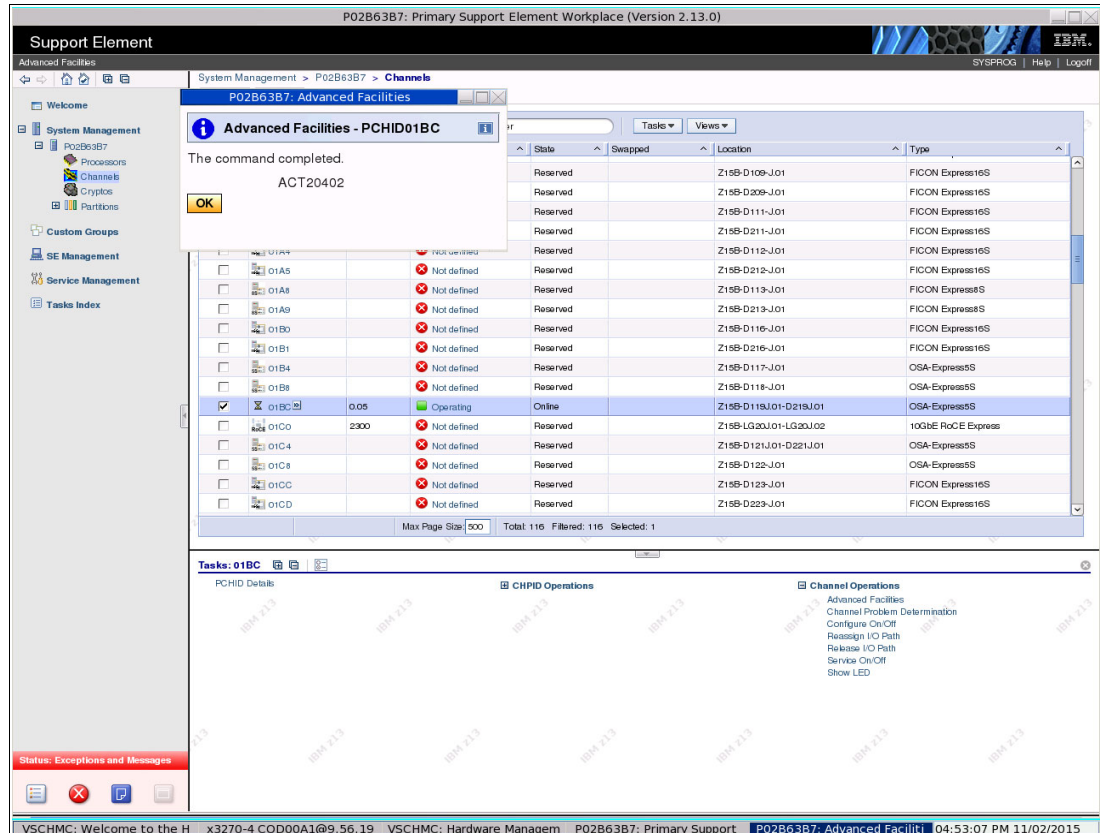

Figure 7-19 Activation complete
3. The Activate Configuration command completed panel is displayed, as shown in Figure 7-19. Then, we click **OK**.